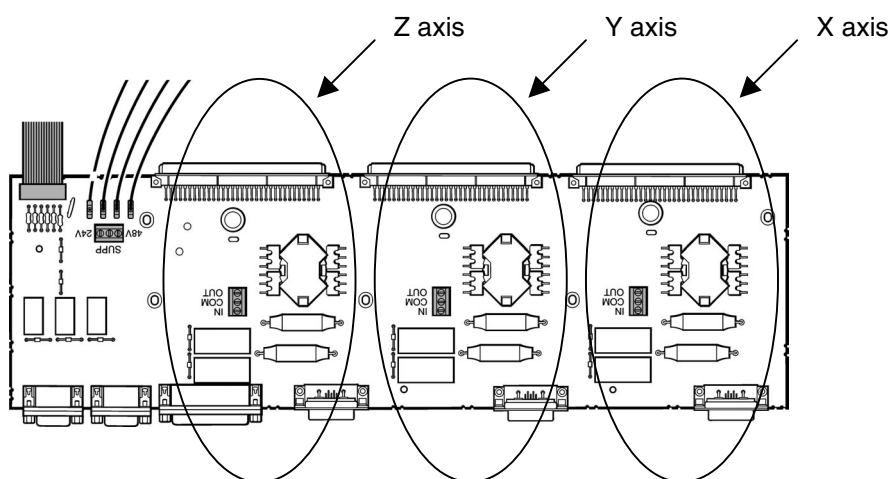

Figure 15 - SPA1 with top of enclosure removed
3. Identify the axis channel that requires the inductor to be removed from the drive system, these are shown in figure 15.
The inductor configuration terminal is located at towards the rear panel on the SPA1 in the respective axis area as shown in figure 15.